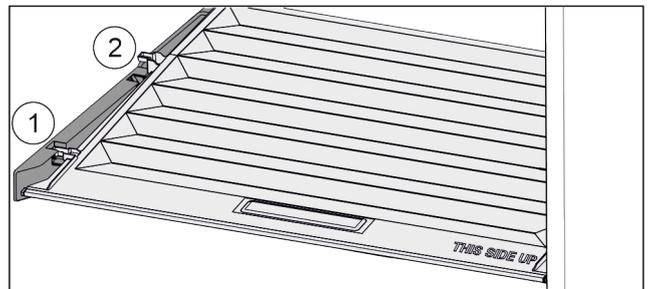

Fig. 126
- ▶ Pull the lid up at the front in the retaining parts to the opening Fig. 126 (1).
- ▶ Lift from the back and pull it up and out Fig. 126 (2).